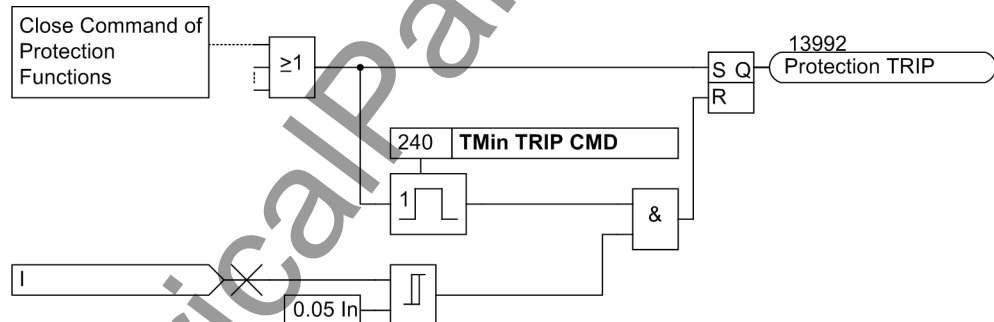

Figure 2-56 Storage and termination of the trip command
**Terminating the Trip Signal** A trip command once transmitted is stored (see Figure 2-56). At the same time, the minimum trip command duration **TMin TRIP CMD** is started. This ensures that the command is transmitted to the circuit breaker for a sufficient amount of time, even if the function which issued the trip signal drops out quickly. The trip commands can only be terminated when the last protection function dropped out, i.e. functions no longer pick up, AND the minimum trip signal duration expired.